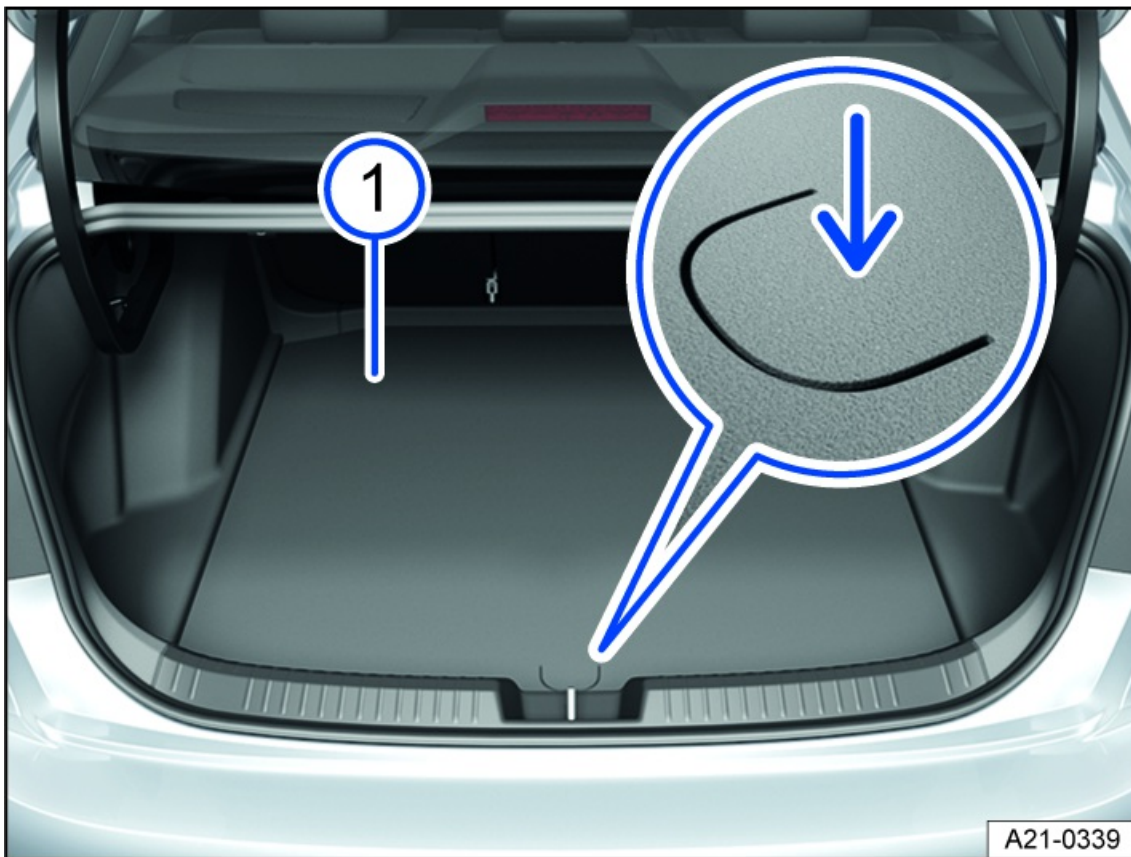

Fig. 134 In the luggage compartment: opening the luggage compartment floor.
1. Grasp the opening or tab in the luggage compartment floor *fig. 134* (arrow) and lift the luggage compartment floor.